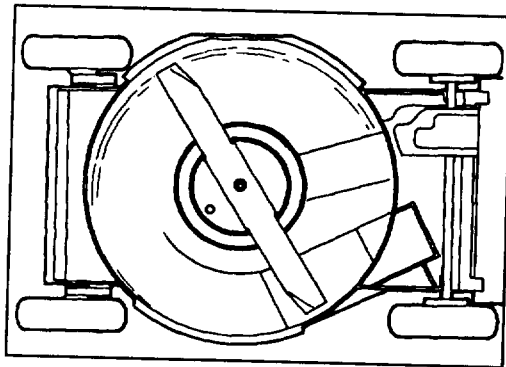

Figure 25
3. Tip mower on its right side (Fig. 25). Avoid rotating blade because starting problems may result.